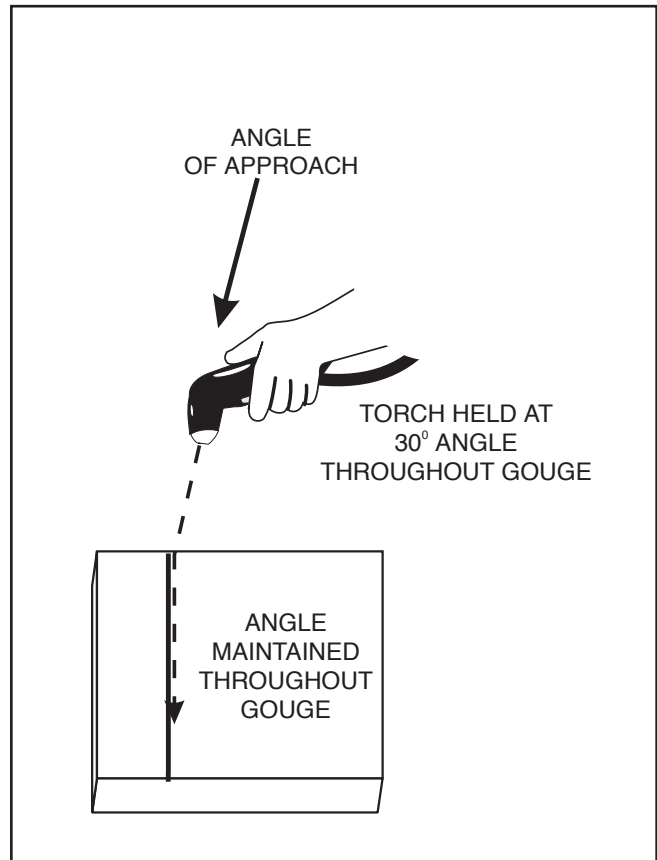

FIGURE B.3 -- Gouging Metal.
3. Bring the torch slowly towards the work piece at a 30° angle, but do not pierce the work piece. Do not touch the nozzle to the work piece. See Figure B.3.